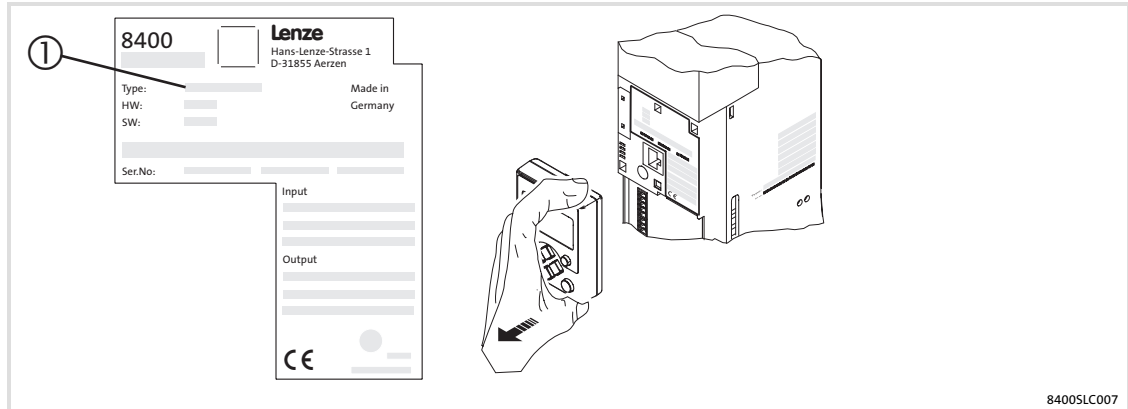

Fig. 3-1 Placement of the nameplate
The type data used in this manual refer to the nameplate ① which is placed at the front of the controller (Fig. 3-1).